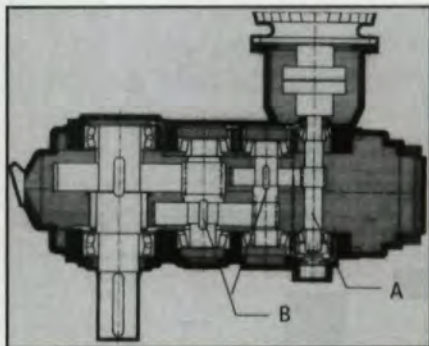
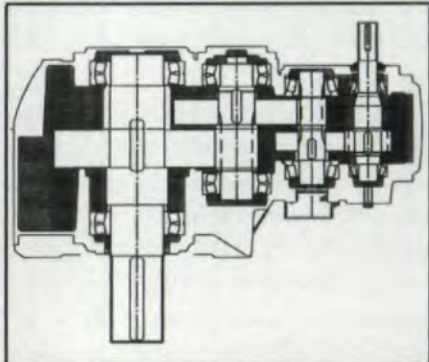

Fig. 2—Conventional housing concept.
Fig. 3—Stepped housing concept.
straight housing sides to support the shafts. As the dimensioning of the low-speed gear sets dictates the overall width of the unit, one of the disadvantages of the conventional design is that the narrower, high-speed gears are found on relatively long and flexible integral pinion shafts (A, Figure 2). Deflection under load will make optimization of these gear sets' noise behavior more difficult.
With the advantages offered by today's flexible machining centers, the housing sides can be designed and manufactured in such a way that the high-speed gears are supported by shorter bearing spans. This stepped housing is shown in Figure 3, and has additional advantages:
- Both the high-speed and intermediate-speed pinion shafts and gears can be standardized over all sizes where the same center distances are applied, irrespective of the number of stages in the respective units (Ref. 6). Note that integral pinion shafts, the key components of modern gear units, can not be truly standardized in a conventional gear unit. In Figure 2, the two intermediate pinion shafts B have different lengths in different housing sizes. In Figure 3 they are identical.
Optimized macrogeometry. Referring back to Figures 2 and 3, it is clear that the presence of the shaft extension differentiates the high-speed integral pinion shafts from the intermediate-speed integral pinion shafts. Standardization between high- and intermediate-speed pinion shafts thus